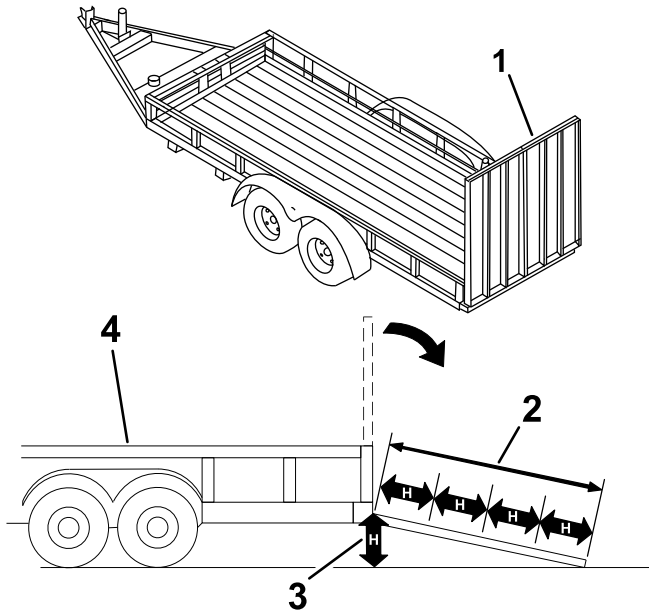

Figure 26
Loading a machine onto a trailer or truck increases the possibility of tip-over and could cause serious injury or death (Figure 26).
3. Lower the ramp (Figure 26).